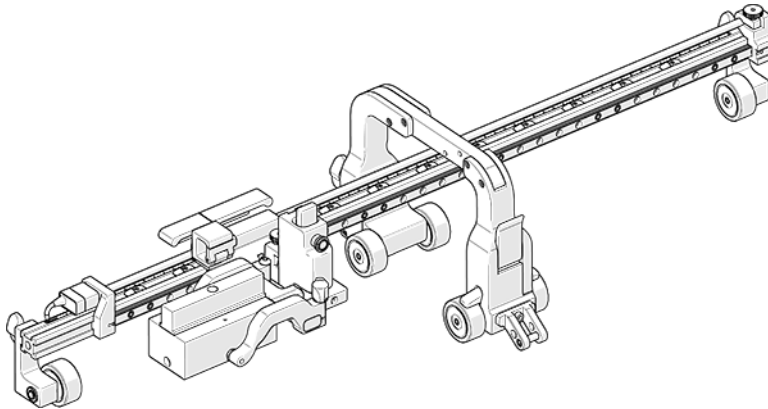

Figure 2-2 Assembly configuration — no links attached
2. Ensure the appropriate configuration (see Figure 2-2 on page 34).